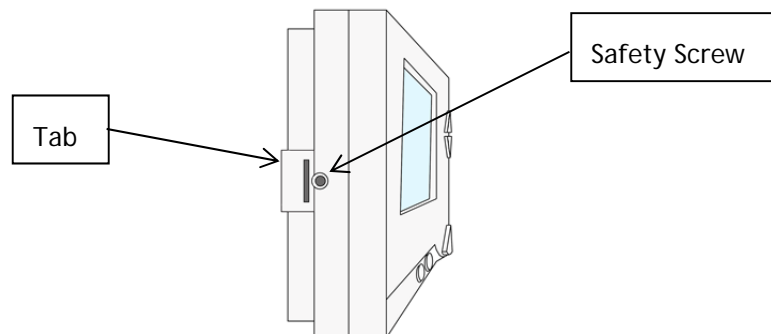

Figure 4: Thermostat Side View
10. Remove the safety screw from the left side of the SS6010 using the hex wrench. See Figure 4.